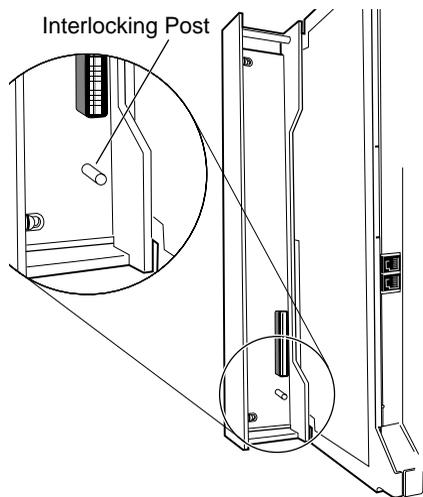

Figure 4-1. Power Supply Interlocking Post
- ▶ **2. Check the small, cylindrical interlocking post on the carrier that locks into the power supply (see Figure 4-1).**